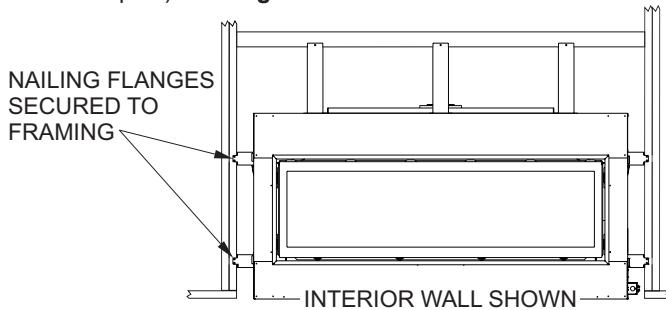

Figure 23
5. Secure fireplace to framing with nailing flanges. Set the depth to suit facing material (flush, 1/2 inch, or 3/4 inch set back depths). **See Figures 23 and 24.**